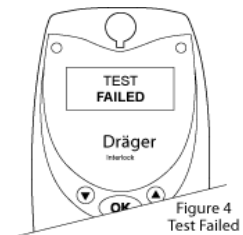

Figure 4
**Test Failed:** If the breath sample is above the set-point the message "Test Failed" will appear (Figure 4) and the red light on the right side of the device will light up. The vehicle will not start.